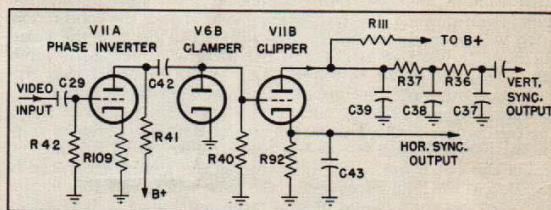

Fig. 5. Sync Separator Circuit
4. SYNC SEPARATION (SEE FIGURE 5).